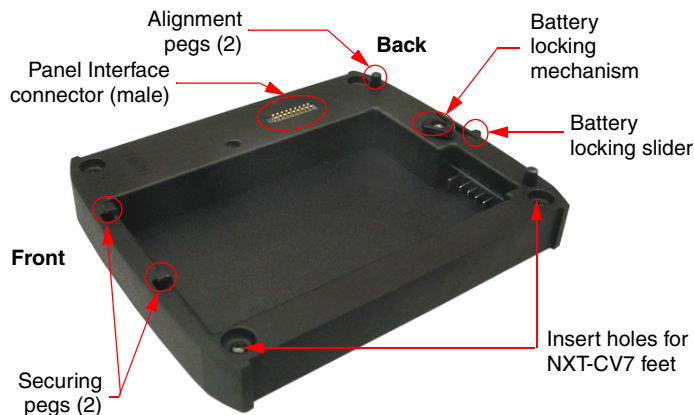

FIG. 5 NXA-BASE/1 showing Panel Interface and connector locations
1. Insert the single battery into the battery compartment shown in FIG. 5.
3. Turn the battery locking slider (FIG. 5) to one side until the locking mechanism is horizontal to the base (going left to right) and the rear battery latch is pointing directly outward (away from the LCD).